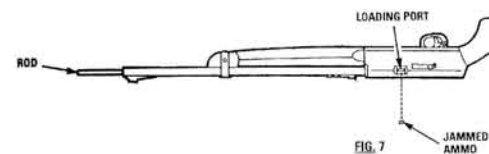

FIG. 7
- Push the jammed pellet into the pellet loading port (forward of the bolt) (Fig. 7)